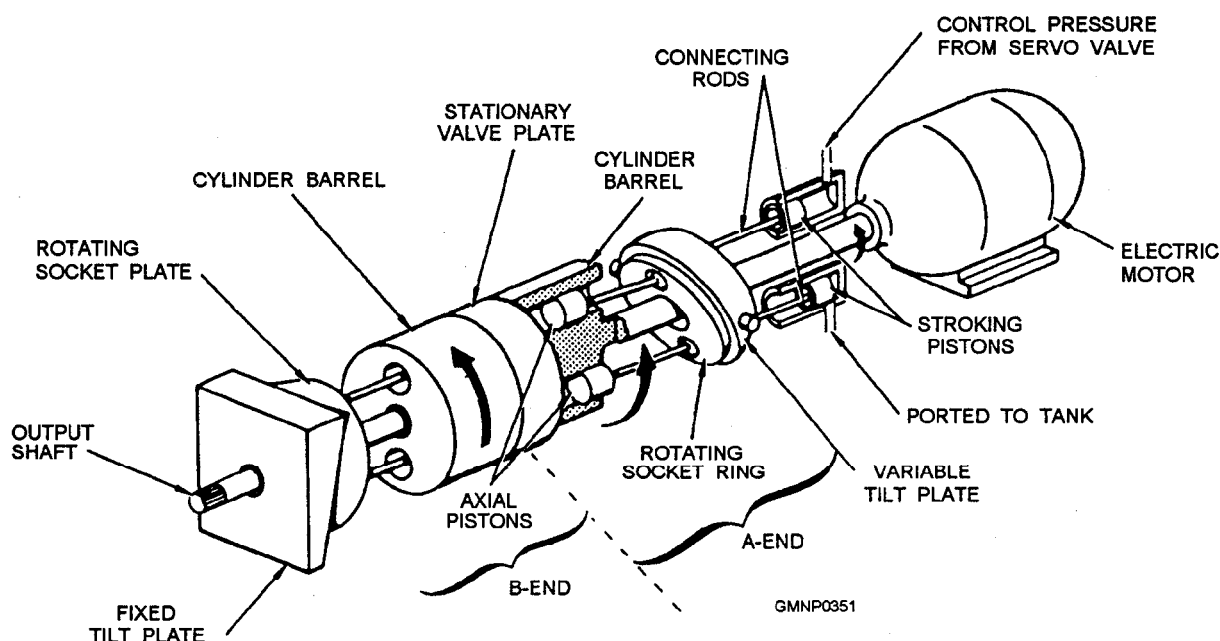

Figure 6-4.—CAB unit (mechanical schematic).
The cylinder barrel in the A-end (fig. 6-4) contains nine pistons located axially around the drive shaft. The pistons reciprocate (move back and forth) within the cylinder bores, drawing fluid in during 180-degree rotation of the A-end and discharging fluid during the other 180-degree rotation. The volume of fluid pumped depends on the length of piston travel in the cylinder bore, which is determined by the angle of the variable tilt plate. Two stroking pistons, one on each side of the tilt plate, control the tilt plate angle.
**B-END.**— The B-end, with its fixed-position tilt plate, operates in a reverse manner from the A-end, converting fluid flow into rotary motion. When fluid output from the A-end piston is applied to the B-end piston, the resultant thrust of the ball-end connecting rod against the inclined socket ring causes the socket ring to rotate. A universal joint connects the socket ring to the B-end output shaft so that both the output shaft and the cylinder barrel rotate with the socket ring (fig. 6-4). The cylinder barrel rotates against the two crescent-shaped ports in the valve plate. One port supplies A-end fluid to the axial pistons for a thrust stroke and the other port receives displaced fluid from the pistons on the retract stroke. During continuous rotation of the B-end, hydraulic fluid from the A-end is applied to the piston for the thrust stroke. As the